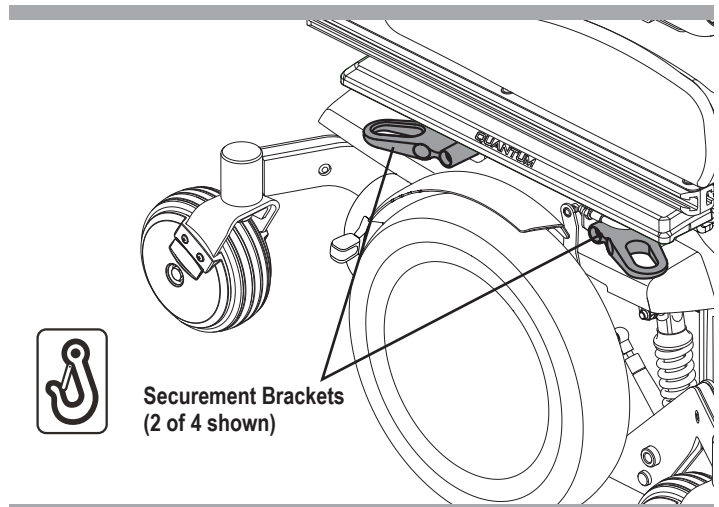

Figure 8. Transit System Securement Brackets
If your power chair is equipped with a transit securement system, it is equipped with manufacturer-installed front and rear securement brackets, and may be equipped with positioning belt anchoring brackets. **See figure 8.** Refer to the supplement provided with your power chair for information on how to use the transit securement system.
- Attach the four (4) tie-down straps to only designated, labeled transit securement points indicated by anchor symbols on the power chair. **See figures 8 and 9.** Tighten the straps sufficiently to remove all slack.